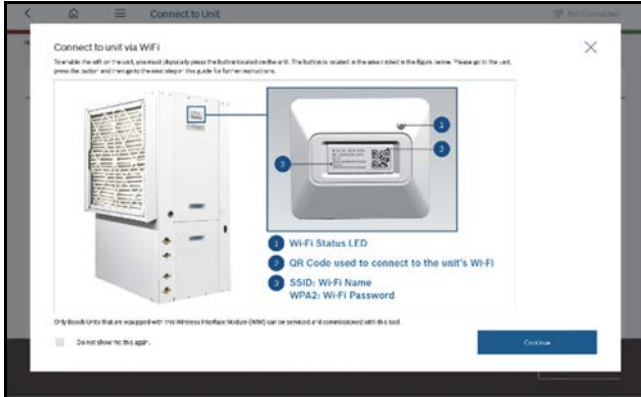

Fig. 25 Connect to the Unit via Wi-Fi
- In order to connect to the appliance, click the **Connect to Unit** button shown in Fig. 25. The Connect to unit via Wi-Fi screen displays. The screen instructs the user to physically press the button on the Wireless Interface Module (WIM) to turn it on.